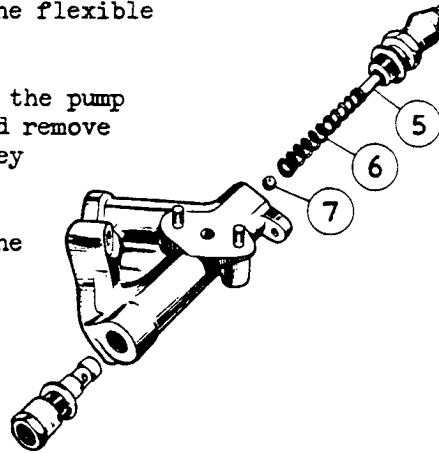

FIG. 2 THE PUMP AND VALVE ASSEMBLY.
(vi) Undo the hexagon nut and remove the ride control valve rod (5 Fig.2), spring (6) and steel ball (7).